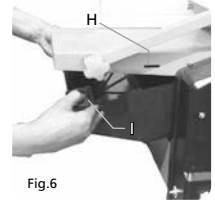

Fig.6
- Set the table to the lowest position and push the suction connector into the machine until both switching pins 'I' can slide into the mortises 'H' (Fig. 6).